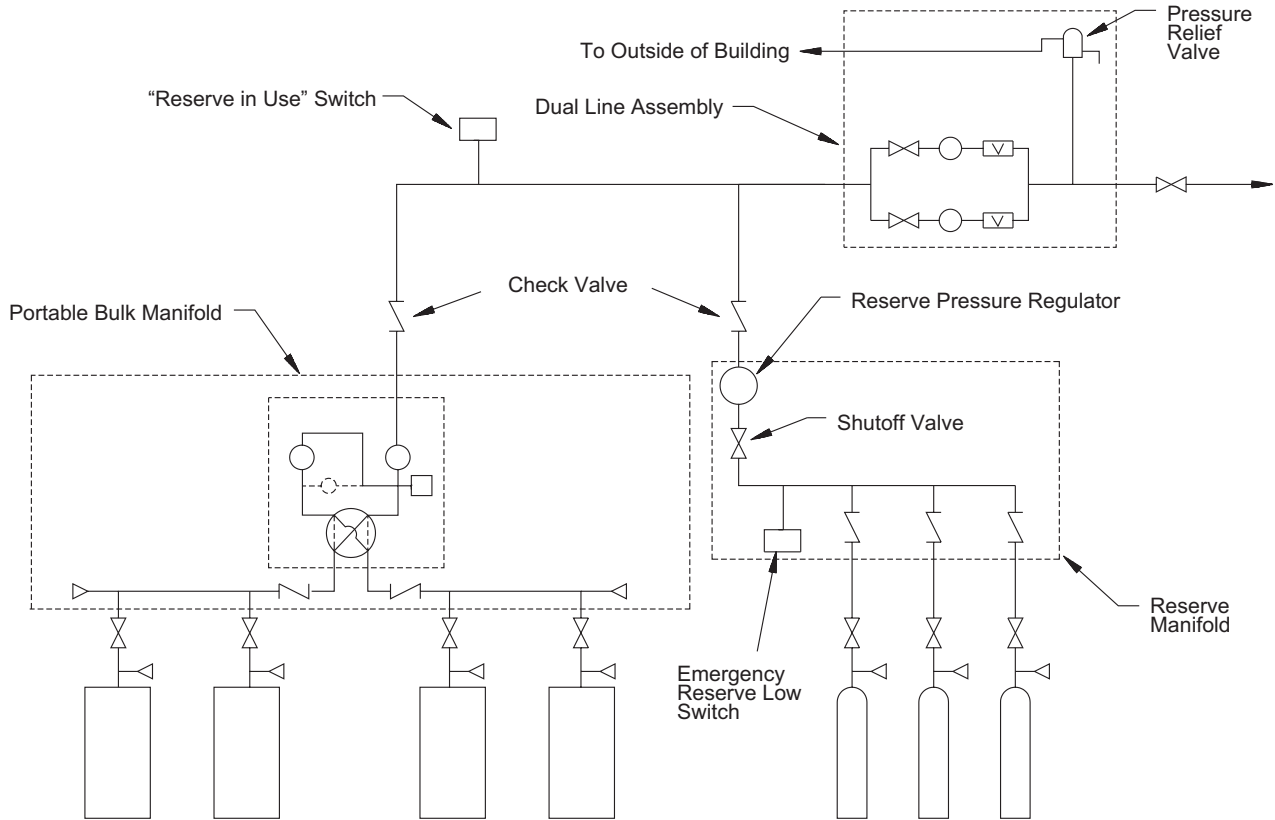

Figure 3
2. If installing the dual line to meet the "Cylinder systems with reserve supply" (4.3.1.1.6). The installation should look similar to figure 3 below.